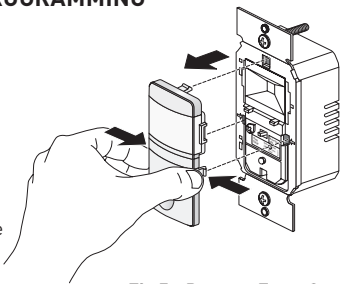

Fig 5: Remove Front Cover
2. Firmly grasp the edges of the front cover directly below the lens where it says "open" (see Fig. 5). Push in one side first until it pops out, then the other side. Remove front cover from the unit.